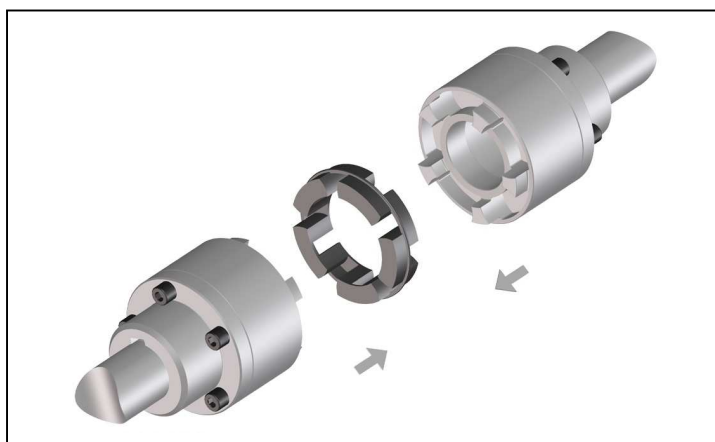

Fig. 5
- Push together the shaft ends with the mounted half of the clutch (Figure 5).